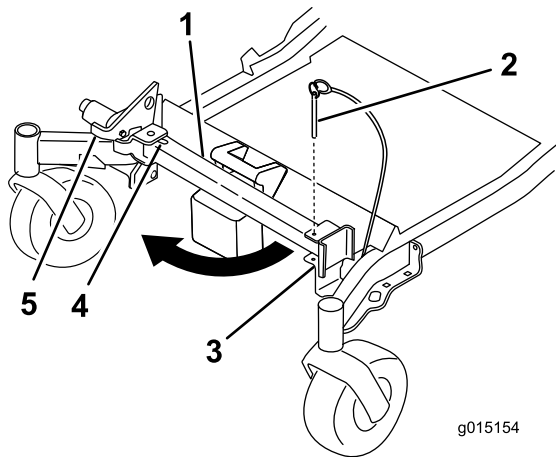
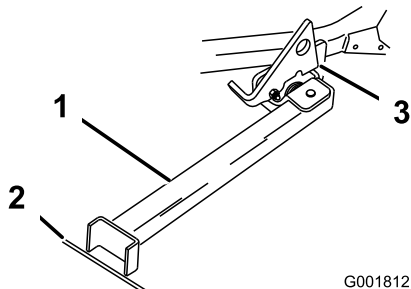

Figure 39
Figure 40
2. Remove the bracket pin (Figure 39).
3. Raise the latch. Swing the stand foot out front and slide stand toward machine, into the bottom of slot (Figure 39 and Figure 40).
4. Set the foot of stand on the ground and rest the latch on the pivot tab (Figure 40).
**Note:** For best results, place the foot of stand into seams in sidewalks or into the turf (Figure 40).
6. Drive onto the stand. Stop when the latch drops over the tab into the locked position (Figure 40). Once onto the stand, engage the parking brake and turn off the engine.
5. Return the stand to its rest position (Figure 39).